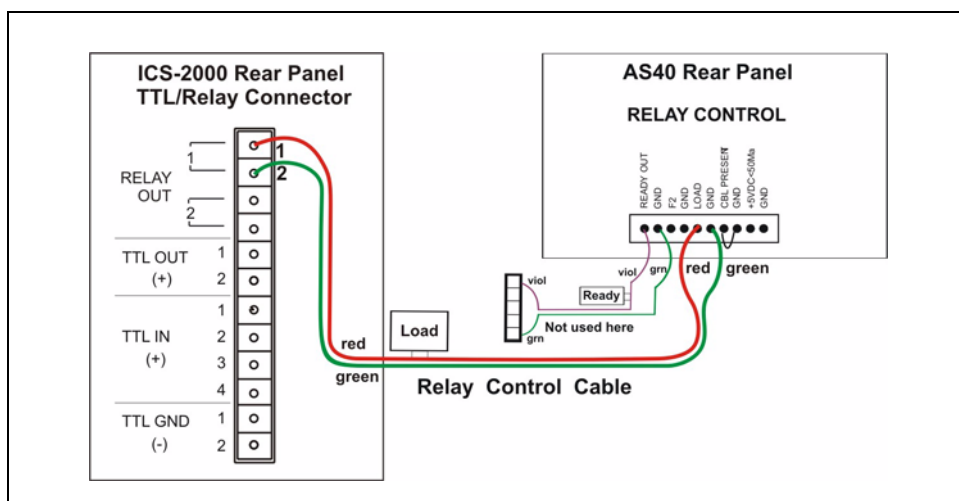

Figure 110. Example AS40 Autosampler Connection
8. Connect the relay control cable's 10-position connector plug to the **RELAY CONTROL** connector on the AS40 rear panel (see Figure 110).
9. Plug the 12-position connector plug into the TTL and relay connector on the ICS-2000 rear panel (see Figure 110). Make sure the red wire connects to position 1 and the green wire connects to position 2.